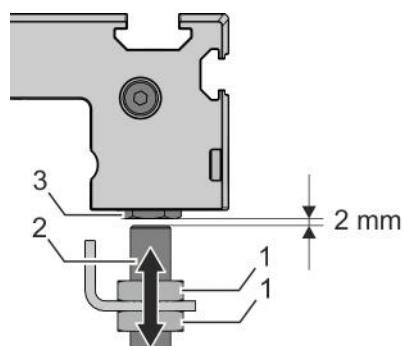

Fig. 37: Adjusting the operating distance
4. ➤ Use the hexagon nuts (Fig. 37/1) to set an operating distance of 2 mm between the inductive limit switch (Fig. 37/2) and the roller bolt (Fig. 37/3).